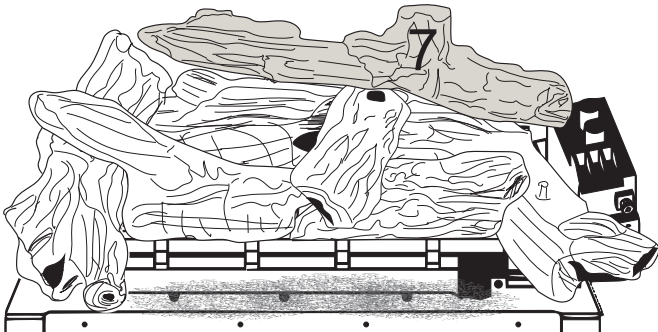

Figure 6.8 - Log #7 Placement
8. Hold log #7 with the pointed end to the left and the flat end toward the bottom. Place log #7 by positioning the two pin locator holes on the bottom of the log over the pins on log #1 and #2. See Figure 6.8.